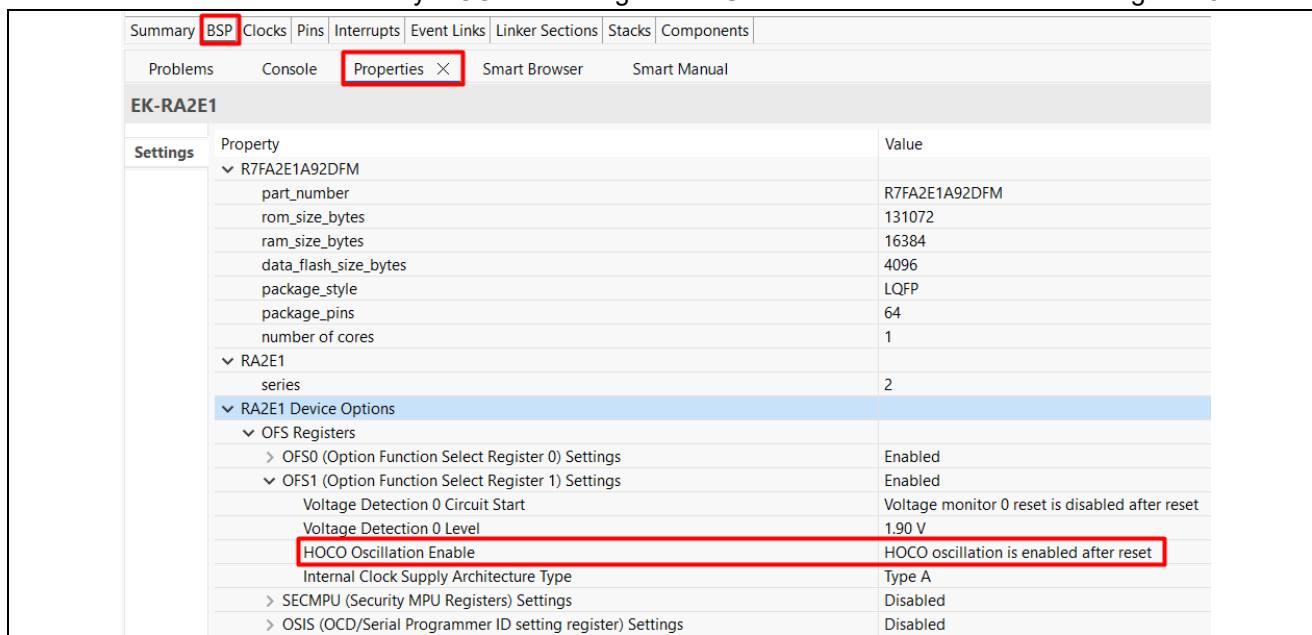

Figure 25. Enable the HOCO Oscillation
18. Enable the HOCO Oscillation. The HOCO is used to provide the system clock to the Application Image after successful verification by MCUboot. Navigate to **BSP** tab and select it as shown in Figure 25.